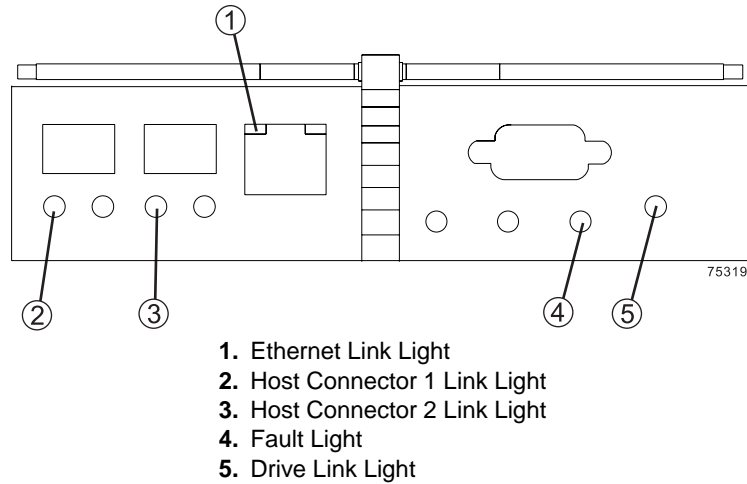

Figure 4-12 Drive Link, Host Link, and Fault Lights
- 16 Select one of the following steps, based on the status of the Host Link, Drive Link, and Fault lights. Figure 4-12 on page 4-14 shows the locations of these lights.
- 23 After 24 hours, check the Host Link, Drive Link, Fault, and Battery lights to ensure that the battery is working properly. Figure 4-12 on page 4-14 shows the locations of these lights.